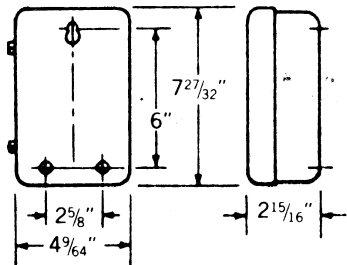

Figure 3. EC71/18S Dimensions
2. Mount case in a vertical position using mounting holes provided (see Figure 3.)